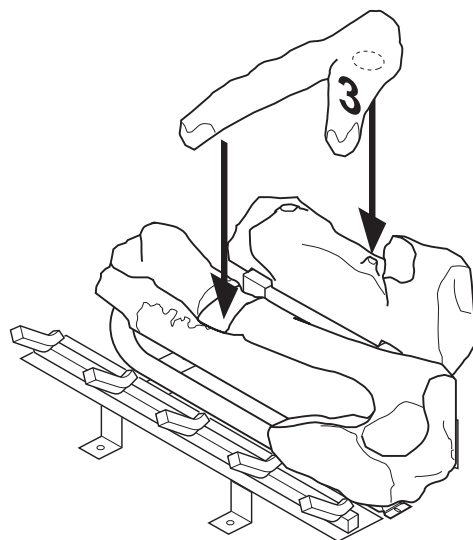

Figure 30 - Installing Log No. 3
4. Place log #3 (crossover log) onto rear and front logs. Make sure it is seated properly into notch on front log and over the raised triangular portion of rear log as shown in Figure 30.